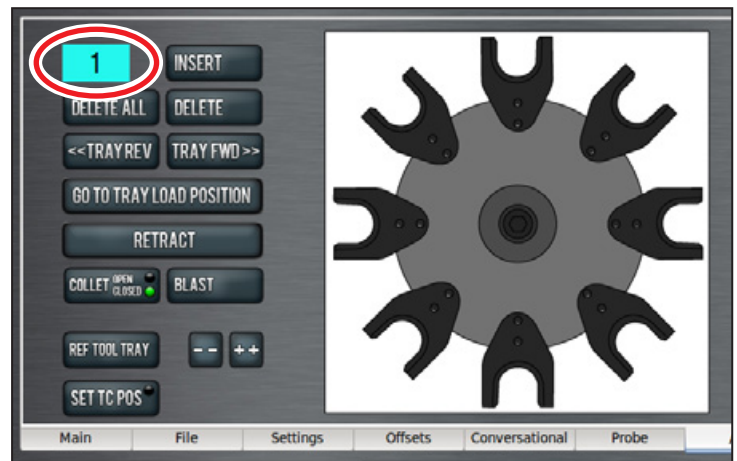

Figure 26
3. From the PathPilot interface, on the ATC tab, type 1 in the *Tool Number* DRO field (see **Figure 26**).
4. Click the *Insert* button (see **Figure 26**).